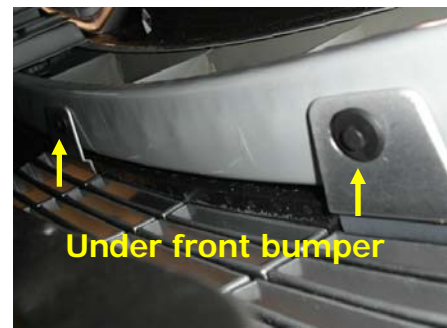

Fig. 5
5. Remove front bumper fascia – It is not necessary to remove the head lights; however, it is necessary to remove several front fascia-to-wheel liner screws (Figure 4) to access the front fascia-to-fender bolts. Remove the four (4) top front bumper fascia retainers and the two (2) lower front bumper fascia retainers (Figure 5). Remove the bumper and set aside in a safe place.